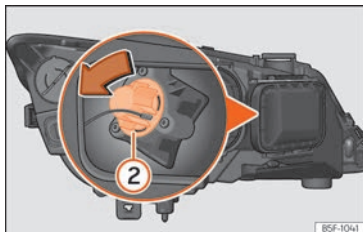

Fig. 110 Turn signal bulb.
- Turn the bulb holder »» Fig. 110 ② anti-clockwise and pull.